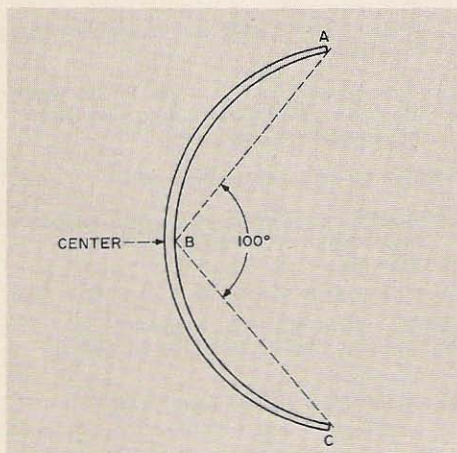
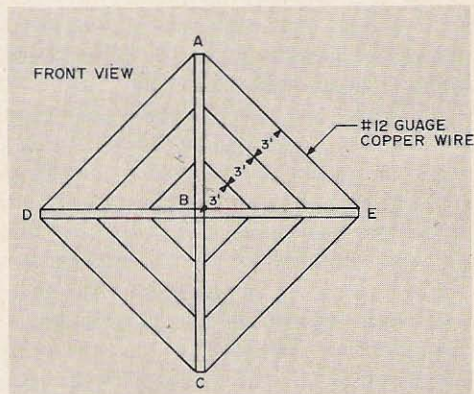
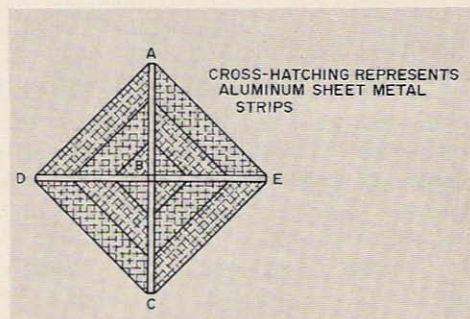
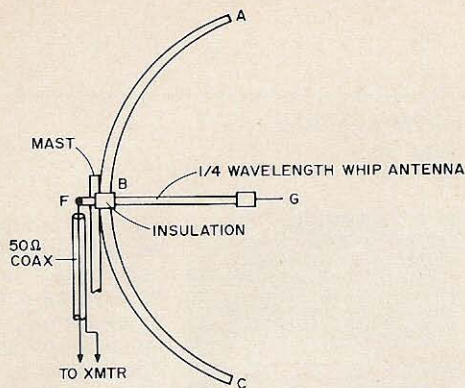

Fig. 1. The curve should be kept uniform.
Fig. 2. Copper wire forms the basic framework.
Fig. 3. With the addition of shaped sheets of aluminum, the dish begins to look like an antenna.
Fig. 4. The driven element can be any good-quality quarter-wave whip. Keep the whip insulated from the reflector and feed it with 50Ω line.
If you are looking for high performance in a beam antenna at a reasonable price, this parabolic beam antenna for 10, 15, or 20 meters might be the answer. It works on the same principle as the corner reflector antenna. Figure 1 shows a 1 in. aluminum tubing configuration shaped like part of a circle. The aluminum tubing is 20 ft long before being shaped as shown in Fig. 1. The aluminum tubing is bent so that 100 degrees appears between points A, B, and C.
Figure 2 shows another piece of aluminum tubing bolted at right angles to the original tubing (ABC). This additional tubing is identical to that shown in Fig. 1 and is shown as a straight line (DBE). The aluminum shown in DBE in Fig. 2 is actually bent into the same configuration
as tubing ABC of Fig. 1. Bare copper wire is used to strengthen the elements ABC and DBE as shown in Fig. 2. Also, this wire is needed to support the aluminum sheet metal shown in Fig. 3.
The sheet metal shown in Fig. 3 is approximately 0.04 in. thick. You will need a roll about 80 ft long. This will act as a giant reflector element giving the antenna a 40 dB front-to-back ratio.
Figure 4 shows the driven element FG. This may be any good quality vertical antenna such as the hustler series by Newtronics. It must be resonant on 10, 15, or 20 meters. (Aluminum rod DBE of Figs. 2 and 3 is not shown in Fig. 4.) The driven element (FG) must be insulated from the rest of the antenna system. This may be done with plastic sheets and tape. The driven element (FG) should be kept at least ¼ in. away from the rest of the system at point B of Fig. 4. The antenna is fed with standard 52Ω coax cable. The feedpoint (F) should be bolted and taped carefully. The shield of the coax should be connected to a nonrotating portion of the reflecting segment of the antenna system. Forward gain will vary anywhere from 14 to 25 dB depending on the type of driven element used and the frequency band it is used on. Generally, the higher frequency bands (10 and 15 meters) will deliver improved performance. The dimensions given for the reflecting portion of the antenna may be the same for each band.